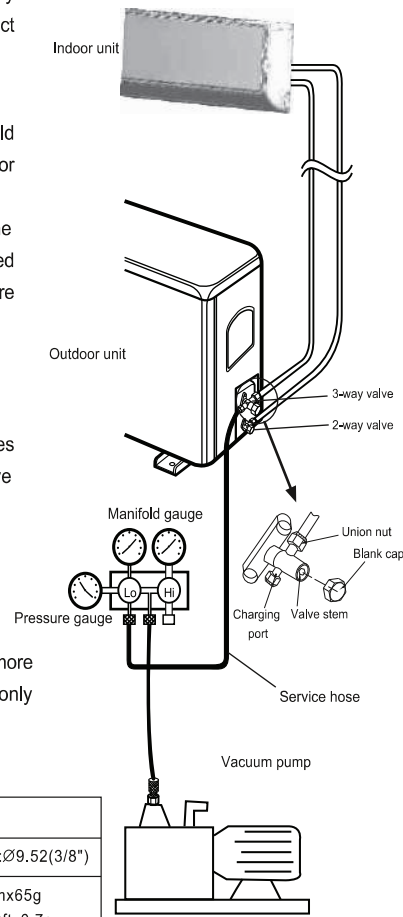

Fig.6
1. Check that pipelines connection have been properly connected, remove the charging port cap, and connect the manifold gauge and the vacuum pump to the charging valve by service hoses as shown Fig.6.